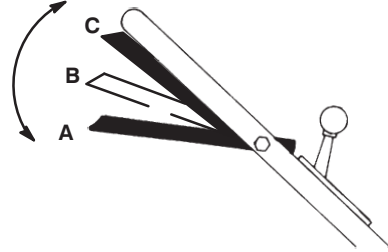

Figure 14
1. Have the blade control bail in the **A** position (Fig. 14).
2. Slide the blade control bail to the right and raise it to the **B** position to engage the blade (Fig. 14).
3. Squeeze the blade control bail against the handle to the **C** position to drive (Fig. 14).